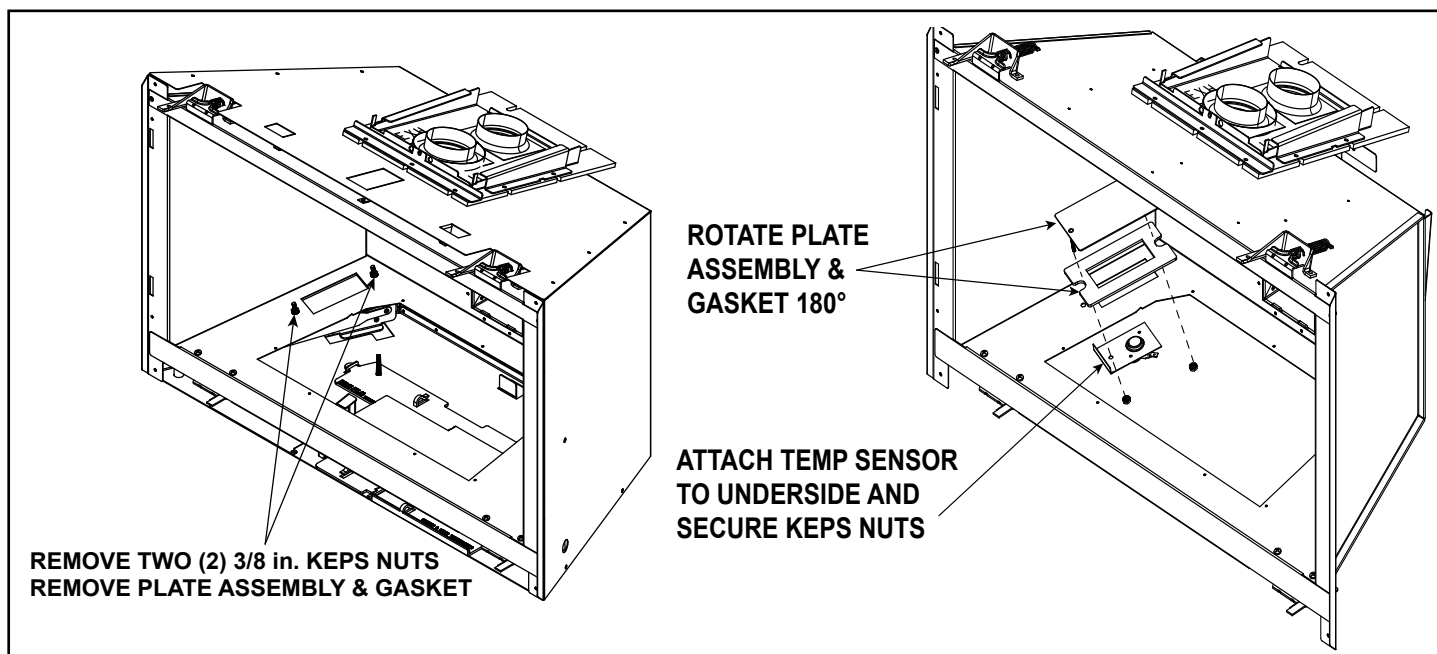

Figure 6.6 Install Temperature Sensor
- Install and wire the fan per instruction shipped with the fan. Figures 6.6 and 6.7 also shows additional details.